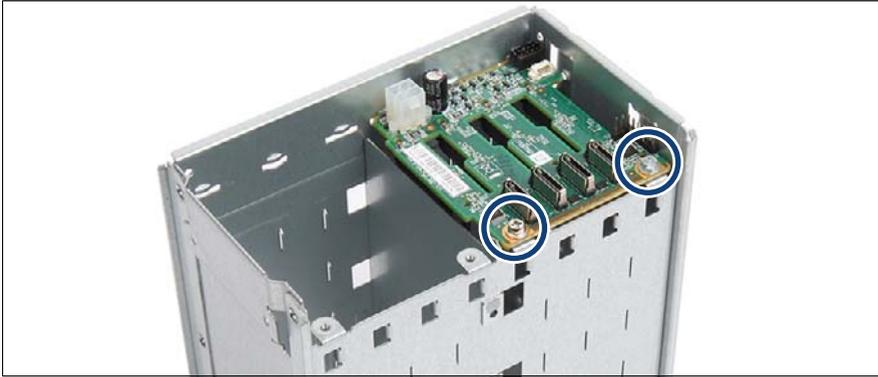

Figure 151: Removing the PCIe SSD backplane (A)
- ▶ At a slight angle, fit the PCIe SSD backplane into the three recesses in the PCIe SSD extension box (1).
- ▶ Fold down the PCIe SSD backplane (2).
- ▶ Fasten the PCIe SSD backplane with two screws (see figure 151).